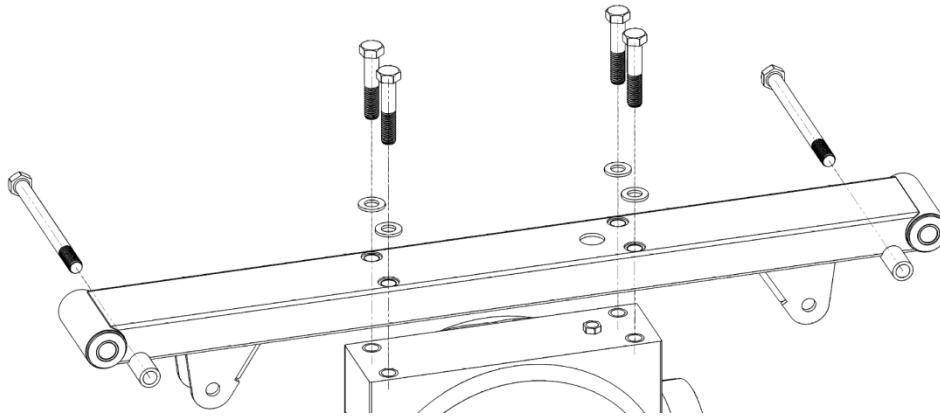

Figure 2. Install the cross member (make sure the vent hole is above the vent), and slip the upper shock bolts in place for now
- 4) Bolt the top crossmember to the top of housing with the upper link mounts facing down towards the ground, and the vent hole on the right (passenger) side as shown in Figure 2. Attach using QTY=4, 1/2" X